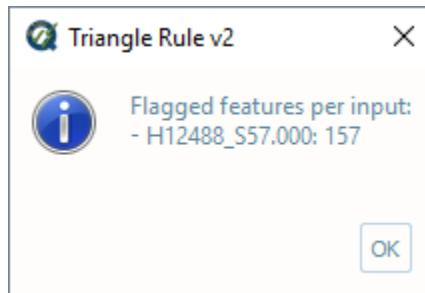

Fig. 2.71: Triangle rule's output message.
- After executing, the output window opens automatically, and the results are shown by textbox (Fig. 2.71).